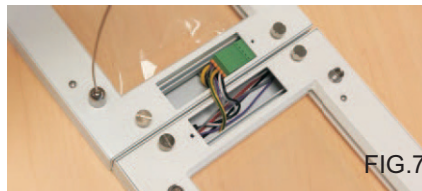

FIG.7
2. Combines the two suspension wires and tighten one suspended kits screw nut with panel screw, another one to the next luminaire. Connect top side on the ceiling (FIG.7).
3. It takes about 0.5 - 2 seconds from turning off the light to next turning on and the lamp is in 10% brightness (see FIG.7).